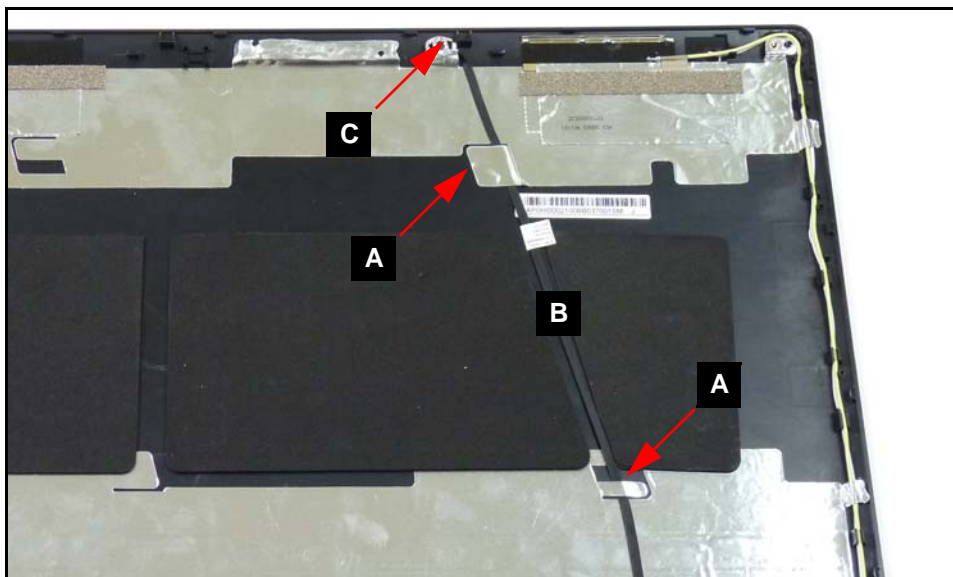

Figure 3-66. Microphone Module and Cable
1. Install module (C) and module cable (B) on LCD module cover. (Figure 3-66)
2. Secure foil tab covering module (C) to LCD module cover.
3. Secure foil tabs (A) covering module cable (B) to LCD module cover.